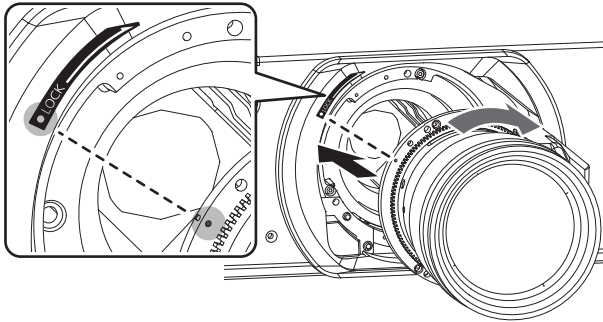

Fig. 1
- 1) **Insert by aligning the projection lens mark (orange) with the mark on the projector body (○ to the left of LOCK) and turn clockwise until it clicks. (Fig. 1)**